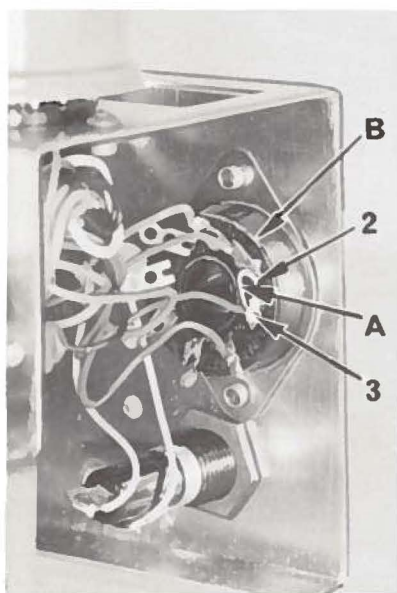

Fig. 38
When installing inching switch, (No. 670 B-21) be sure to remove jumper wire (A, Fig. 38) located between pin #2 and pin #3 on socket (B) before connecting the inching switch plug or it will not function properly.
Should the inching switch be removed at a later date, the jumper wire (A, Fig. 38) must be replaced or the needle positioning unit will not position up.